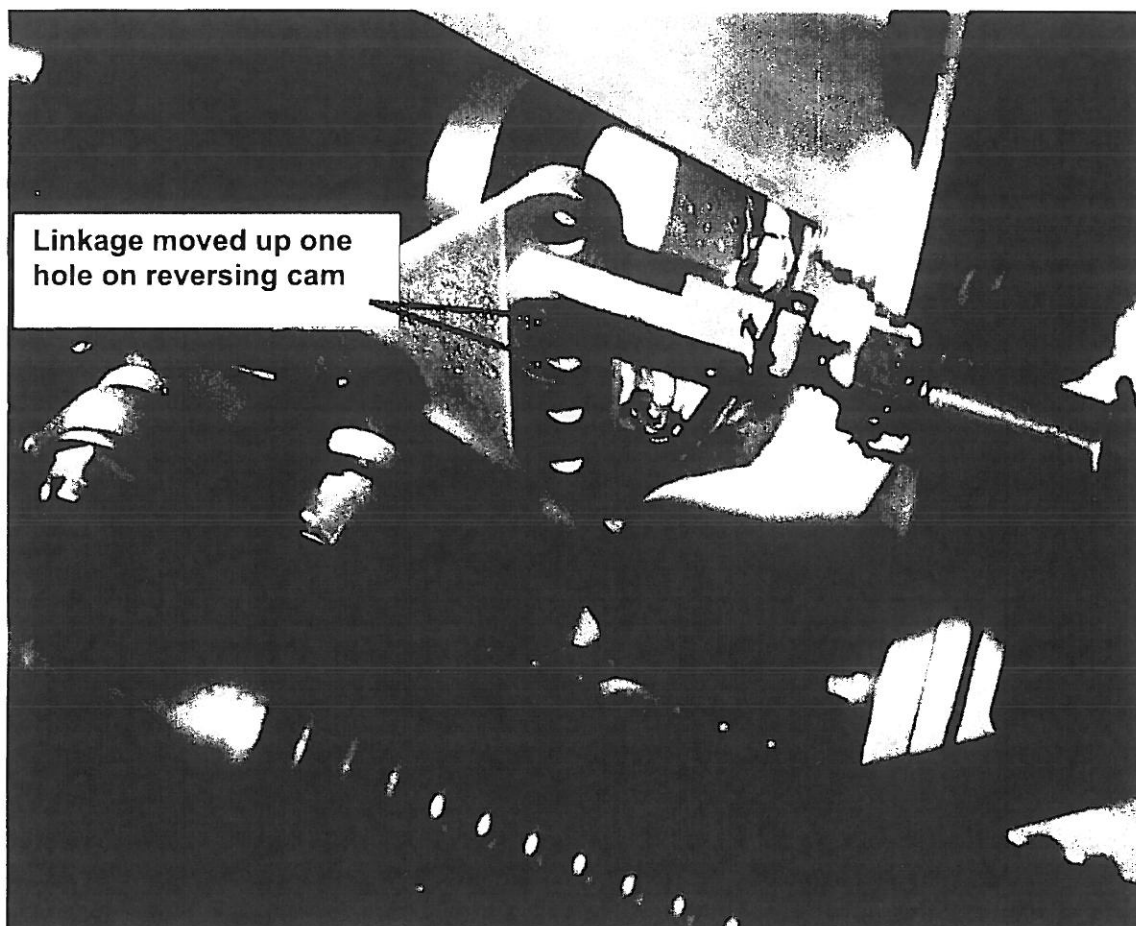

Figure 8
- B. Move clevis up one hole on the propeller control cam/beta cam (one hole further from the control cam pivot point) and re-install pin, washer and a new cotter pin. See Figure 8. Adjustment of the clevis may be necessary to facilitate installation at the new location.